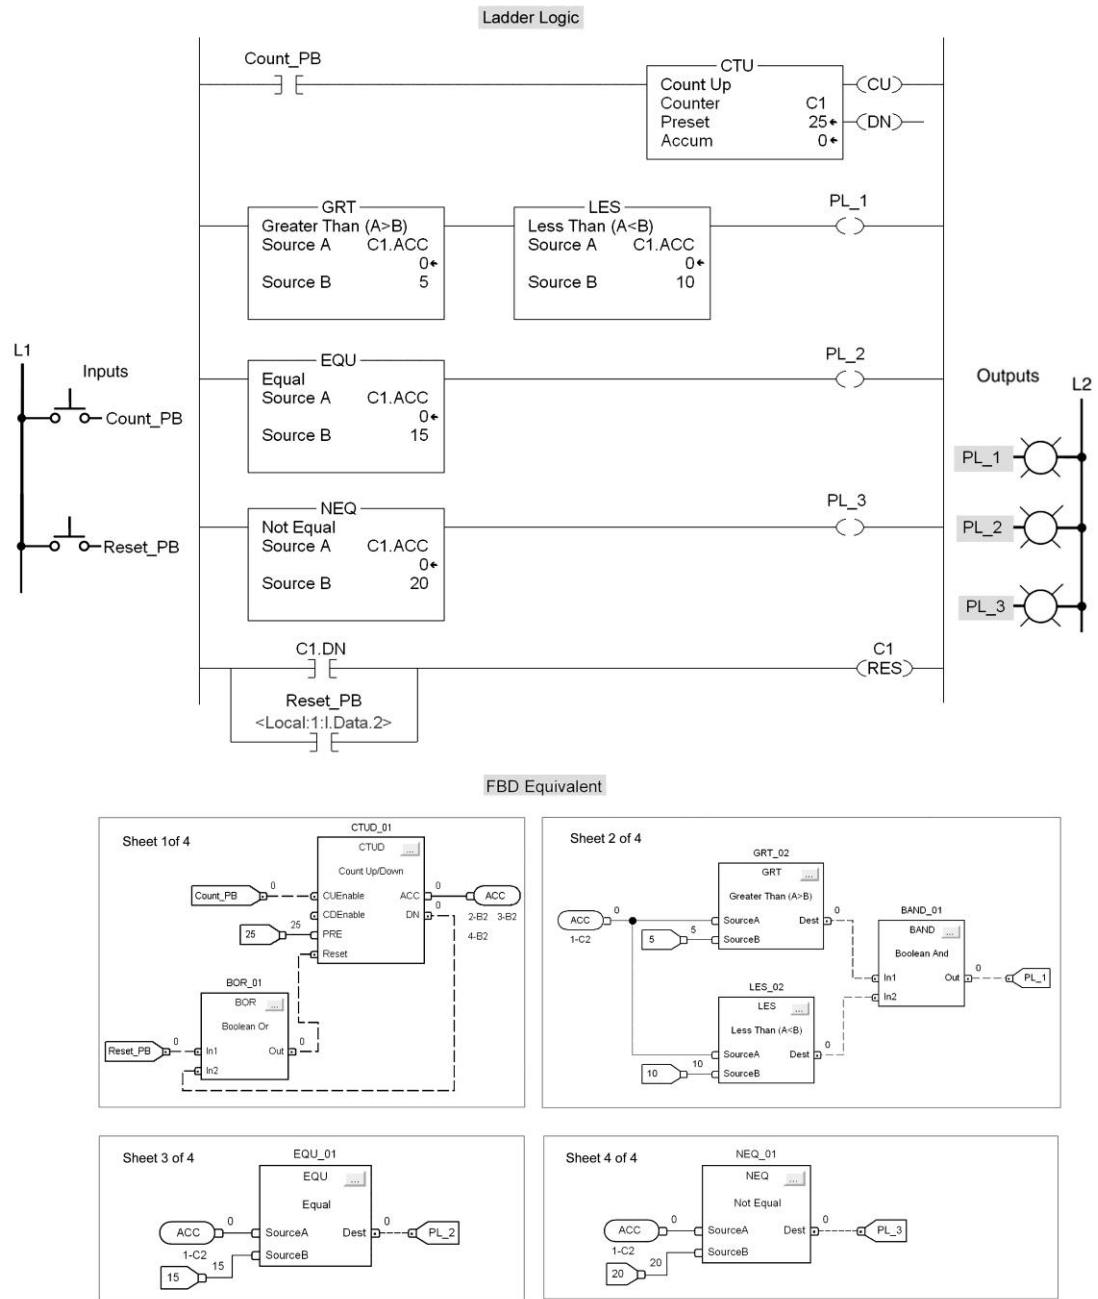

Figure 15-65 Counter program for assignment 7.
7) The programs of Figure 15-65 show the ladder logic and the FBD equivalent for a program used to test the accumulated value of a counter. The operation of the FBD program is explained in the text.